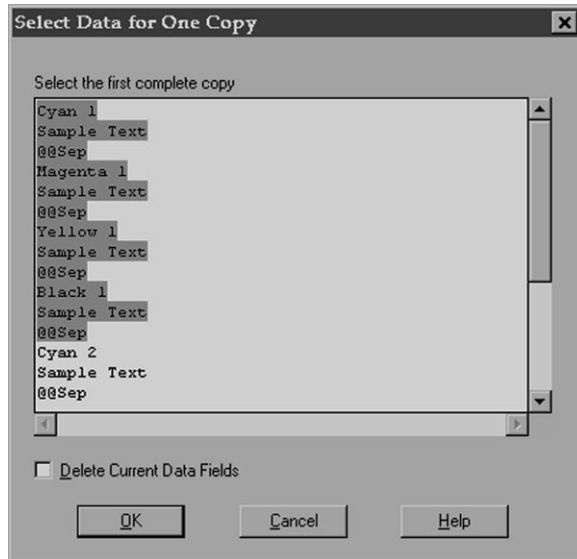

Figure 145. Select Data for One Copy Dialog
4. Highlight the first line up to the next record, as shown for the sample file in Figure 145.